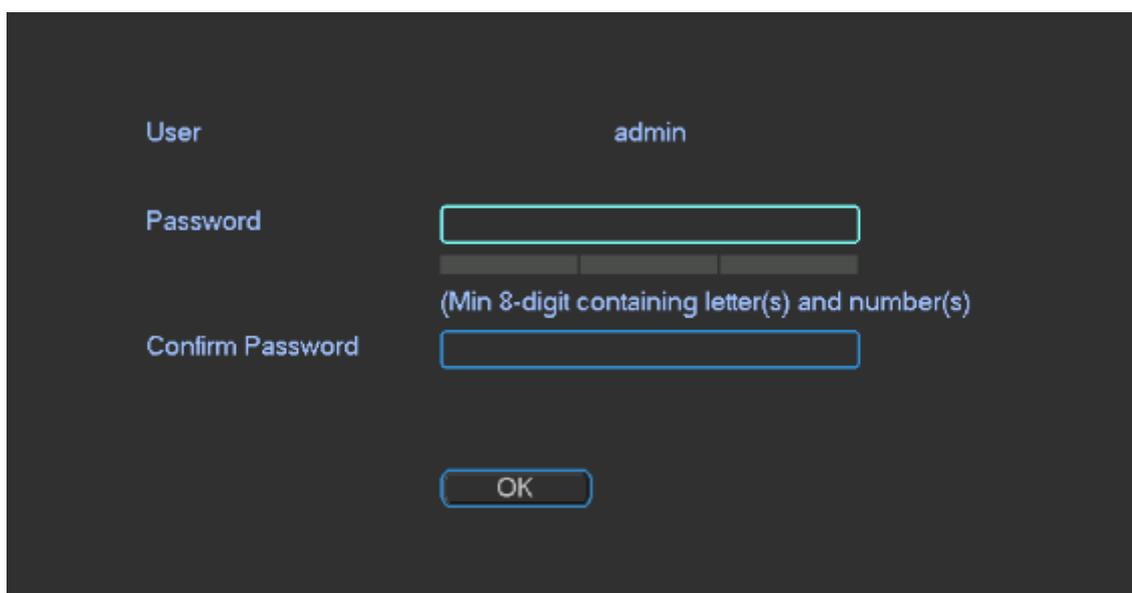

Figure 2-1
Step 1 After you properly turn on the device, the system pops up “Device Initialization” interface, as shown in Figure 2-1.